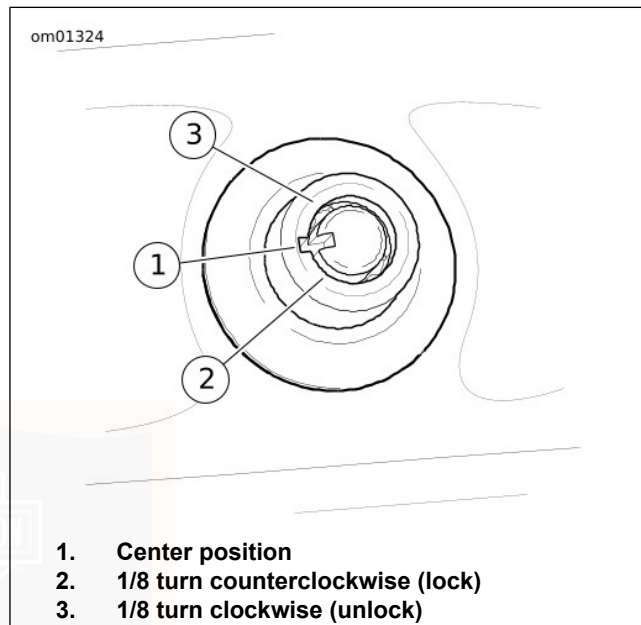

Figure 27. Trunk Lock
1. See Figure 27. To unlock trunk, insert key into barrel lock and turn one-eighth turn clockwise. Return key to center position and remove.